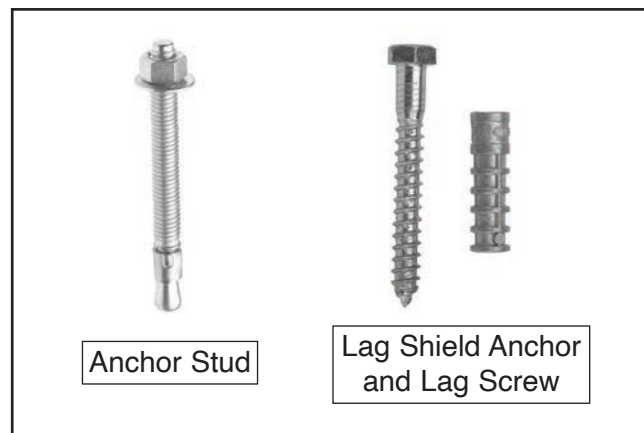

Figure 11. Typical fasteners for mounting dust collector base to masonry or concrete wall.
1. With assistance from another person, mount dust collector to wall with lag shield anchors and lag screws or anchor studs (see **Figure 11**).